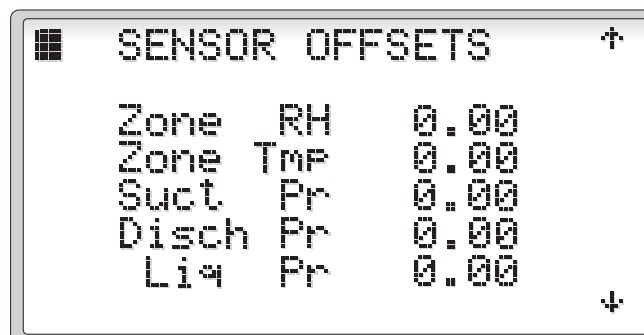

Figure 59
2.3.3.7 Sensor Offsets (Figures 59 through 61)